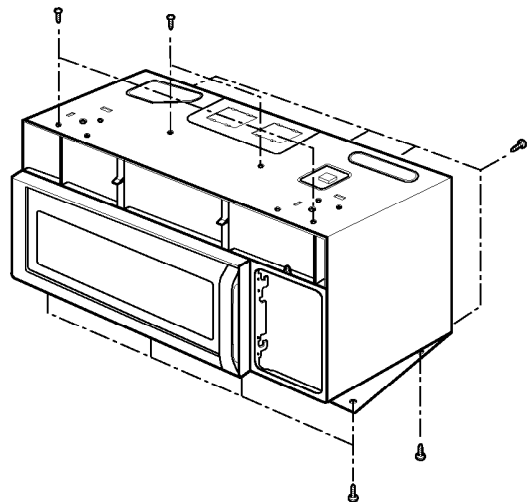

Figure 12
- (3) Remove the base plate by removing six screws securing it to the oven front plate and outcase, remove the outcase by removing nine screws securing it to the oven back plate, air duct. (Figure 12)